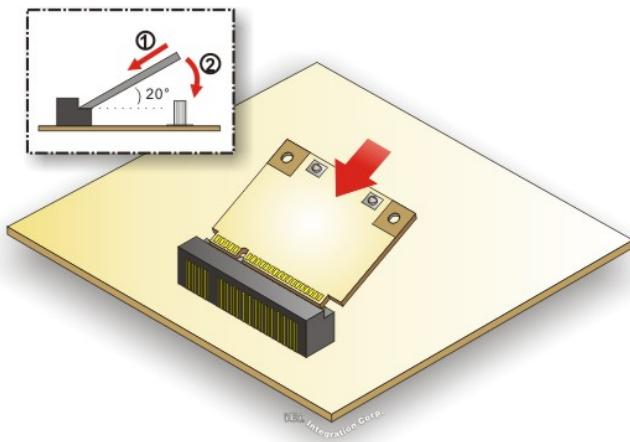

Figure 3-18: Inserting the WLAN/WWAN Module
Step 5: Insert into the socket at an angle. Line up the notch on the WLAN/WWAN module with the notch on the slot. Slide the WLAN/WWAN module into the slot at an angle of about 20° (**Figure 3-18**).